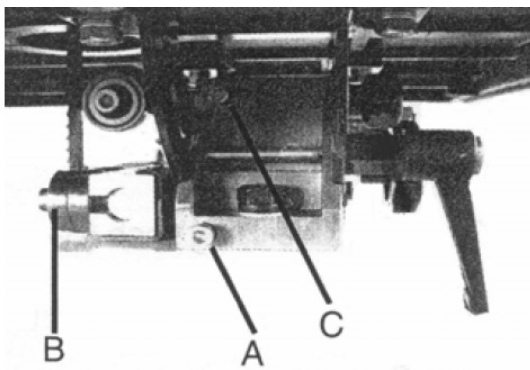

Fig. 15: Saw blade guide
Step 1: First loosen the screw (Fig. 15, Pos. A) and slide the rollers up to approx. 1.5 mm to the saw blade teeth.
Step 2: Retighten the screw (Fig. 15, Pos. A).
Step 3: Loosen the screws (Fig. 15, Pos. B) and adjust the guide rollers so that there is a gap of approx. 0.5-0.7 mm between them and the saw band. If the gap is set too small, the bandsaw blades will wear out faster!
Step 4: Retighten the screws (Fig. 15, Pos. B).
Step 5: Loosen the screw (Fig. 15, Pos. C) and slide the rear guide roller on the saw band backs.
Step 6: Retighten the screw (Fig. 15, Pos. C).